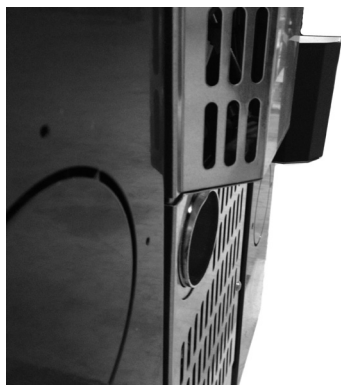

Fig. 12 - Phase 1
- Original position with completely embedded tube (see **Fig. 12**).